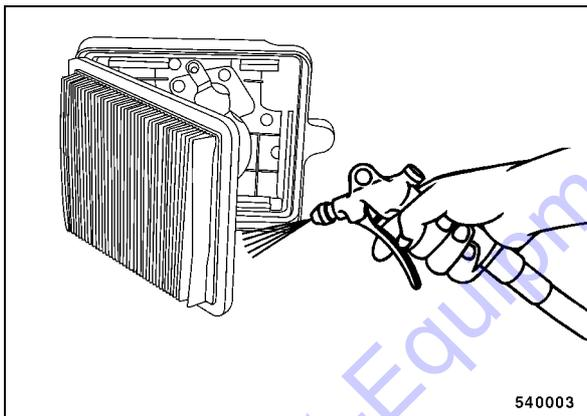

Fig. 68
- If soiled with dry fine dust blow the dry air filter-out from the clean air side (Fig. 68).